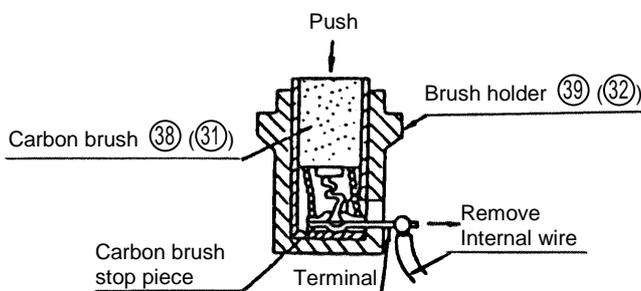
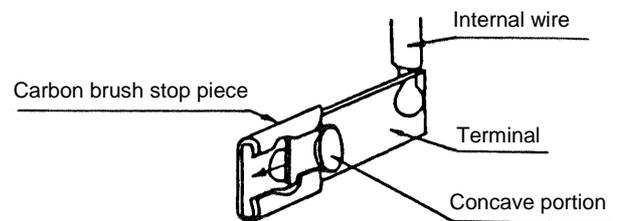

Fig. 4
Fig. 5
(2) Removal of the Carbon Brushes:
With a small minus-hd. screwdriver, lift the Brush Holders (39) (32). Then while pushing the Carbon Brushes (38) (31) to the bottom of the Holders, gently pull out and disconnect the internal wire terminals. (See Fig. 4 and Fig. 5)